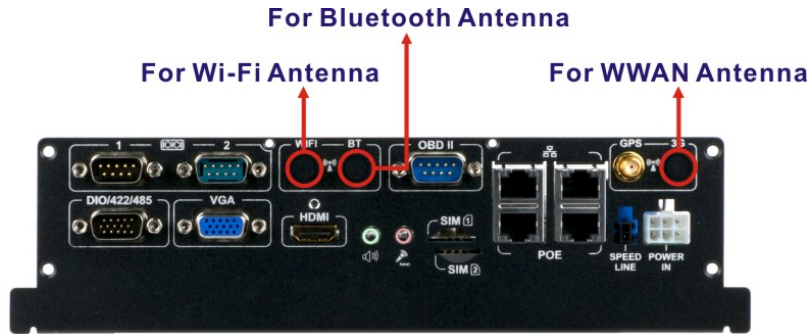

Figure 3-10: Knockouts for External Antennas
Step 2: Remove the knockout for antenna installation. The knockouts are located on the rear panel of the IVS-300 as shown in **Figure 3-10**.